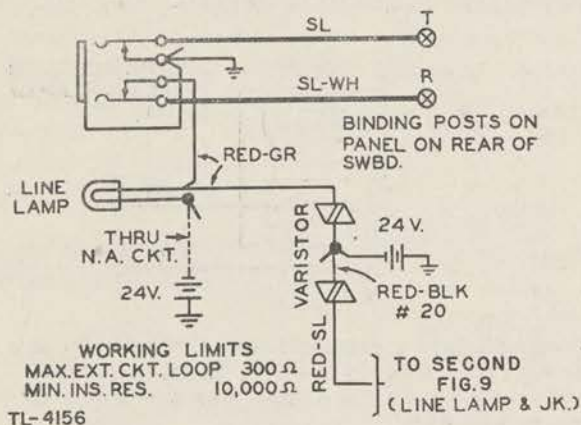

FIGURE 9.—Common-battery line circuit.
**10. Common-battery line circuit** (fig. 9).—This circuit is for use with telephones and circuits that require an external source of transmitter current and which signal switchboard BD-89-A by closing a d-c path.